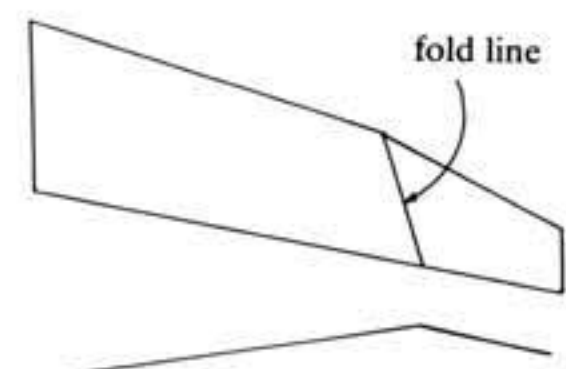

Fig 5 Diffusor tips
(3) Diffusor tips (shown in figure 5) can improve lift distribution without the danger of reduced washout. A very interesting article appears in July/September 1974 Ground Skimmer, concerning diffusor tips, written by Richard Miller. He quotes results of experiments yielding 13.9:1 L/D for a wing with an aspect ration of 5.5 — 50% higher than the theoretical expected value.